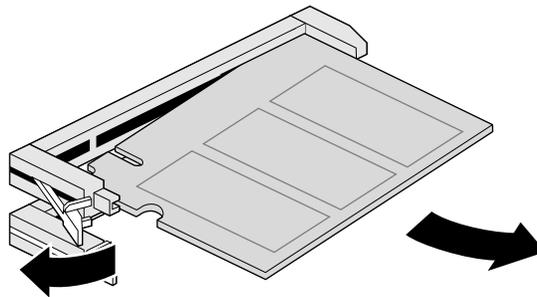

Figure 3-6 Removing a DIMM
7. Remove a DIMM by pushing the latch to the left, as shown in Figure 3-6, then pulling the DIMM out of the slot.